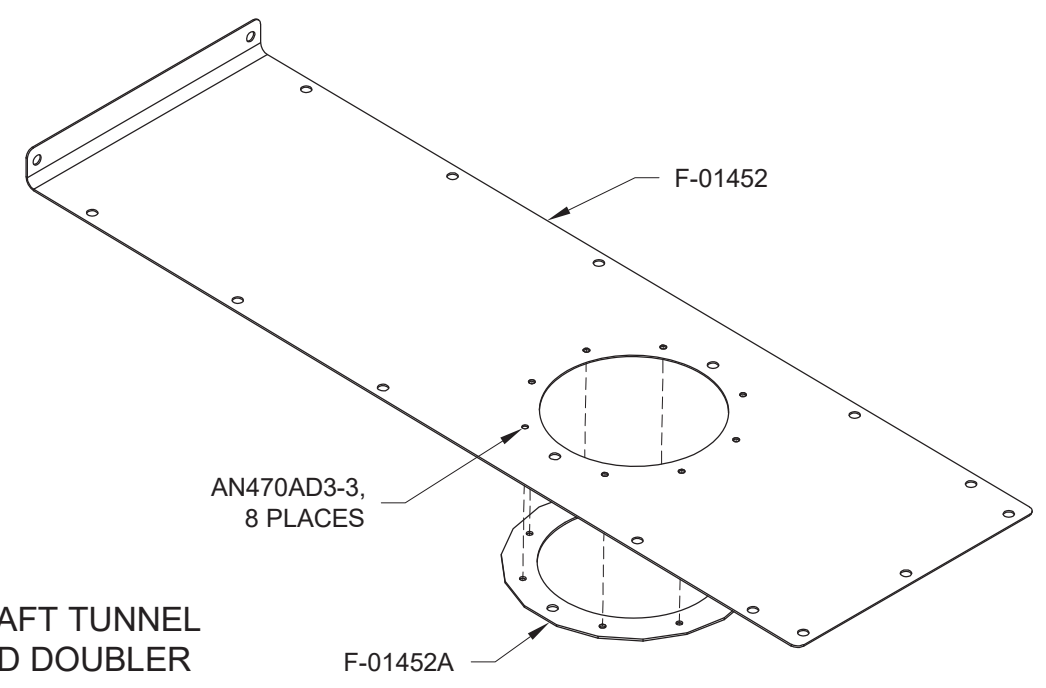

FIGURE 1: AFT TUNNEL COVER AND DOUBLER
Step 1: Rivet the F-01452A Aft Tunnel Cover Doubler to the F-01452 Aft Tunnel Cover with the hardware called out in Figure 1.